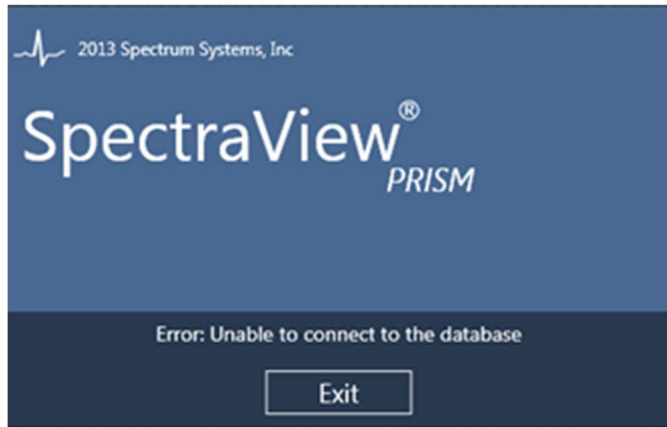

Figure 3-2 Database Connection Launch Error
- b. The *Database Connection* error in **FIGURE 3-2** occurs when the application cannot connect to the database, or encounters a database error or misconfiguration.